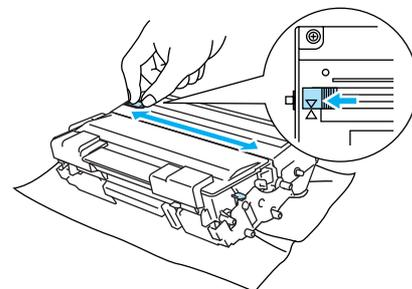

Fig.5-5
- (6) Check that the blue tab is on the home position. (Fig.5-5)
- (7) Gently wipe the scanner window with a dry, soft cloth.